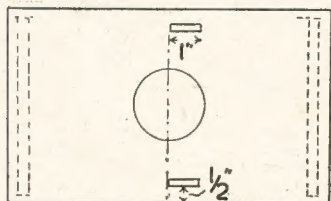

Fig. 4—Detail of lid of case
The lid of the case, which carries the lens, is shown at Fig. 4. Cut it from  $\frac{3}{4}$  in. wood to the outside dimensions of the case, and at the right spot, each end, glue inside a strip of thin wood to keep the lid in its correct position. In the centre of the lid bore a hole of a suitable size for the lens.
given at (D) in Fig. 4. These can be cut from  $\frac{1}{4}$  in. fretwood. The mortise slots for their reception, to be cut in the lid, are marked off on one side of a line cutting across the middle of the lid, as will be seen.